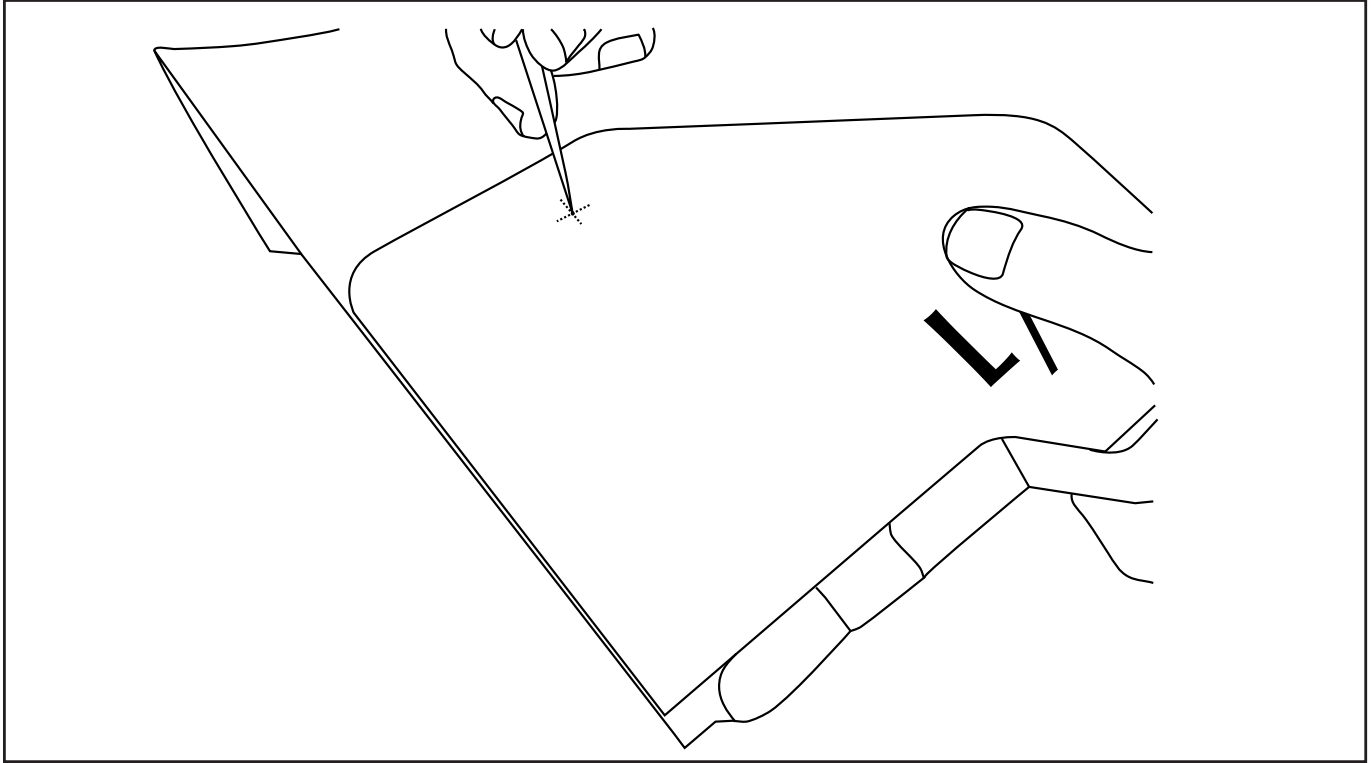

Fig. 6
7. Align paper template to rear trunk trim cover and mark the center of the hardware locations (both sides) (Fig. 6).